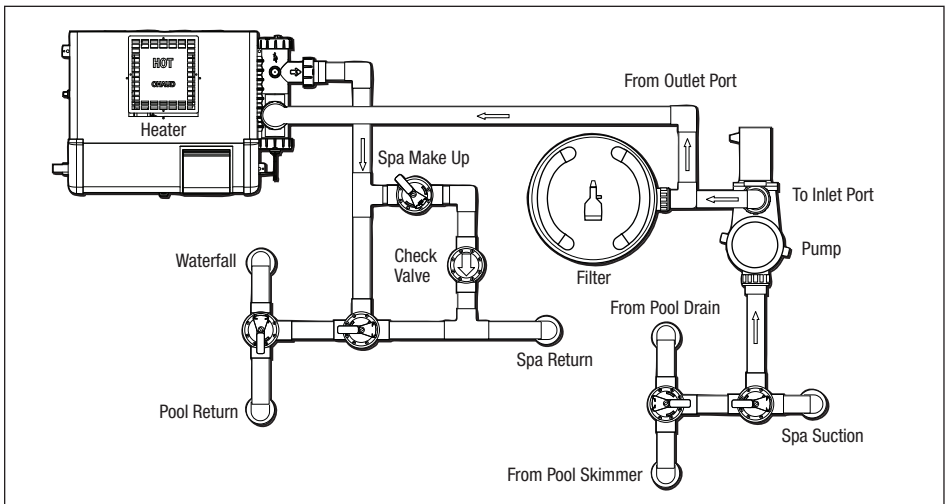

Figure 4. Basic Pool/Spa Combination Plumbing
3. Place the filter on the concrete pad, lined up with the inlet/outlet pipes, see Figure 4. *Remove the shipping screw.*